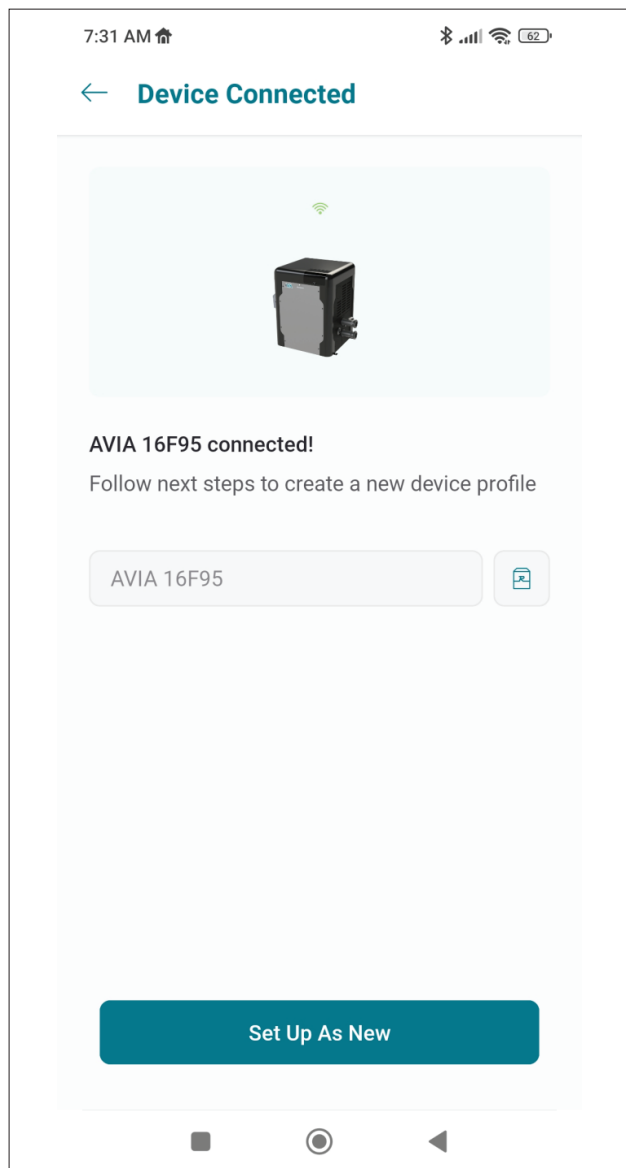

Figure 89. Name Your Unit
1. Your device is now connected to Wi-Fi. You can change the name of your device here. See **Figure 89**.